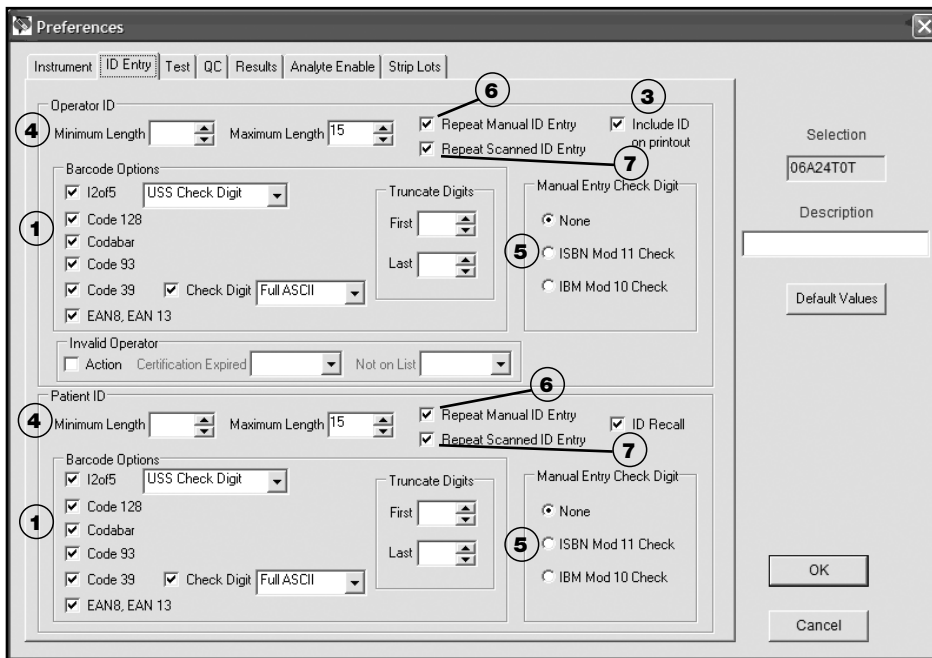

Figure 1
3. Figure 1 illustrates the i-STAT Analyzer ID Entry preferences tab in the i-STAT CDS Customization Workspace. The top half of the screen lists options for entering Operator IDs and the bottom half lists options for entering Patient IDs. Individual options discussed in this Technical Bulletin are marked by numbered circles indicating the section of the Bulletin where a particular feature is described.